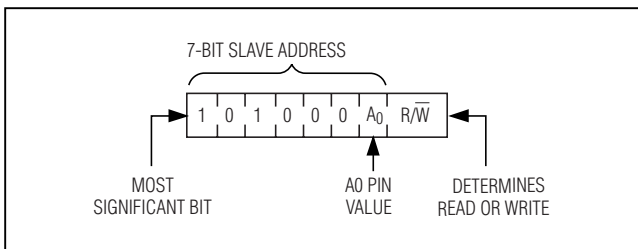

Figure 6. DS4510's Slave Address and the R/W Bit
**Slave Address and the R/W Bit:** Each slave on the I2C bus responds to a slave addressing byte sent immediately following a start condition. The slave address byte contains the slave address and the R/W bit. The slave address (see Figure 6) is the most significant 7 bits and the R/W bit is the least significant bit.